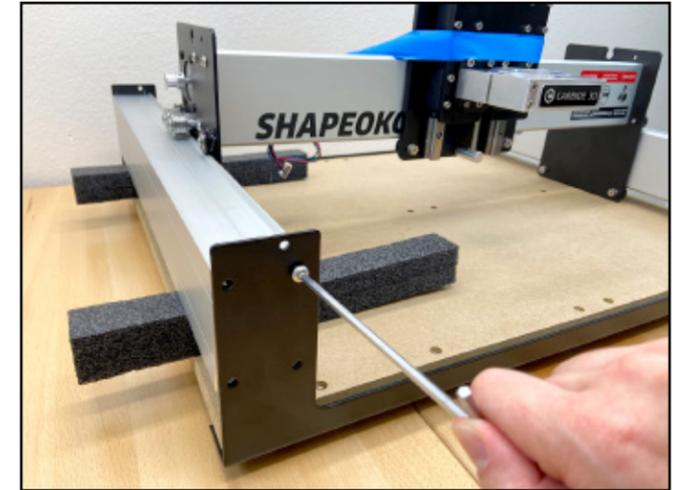

Figure 4-8
1. Prop up the Y1-rail with the two long foam packing blocks from the X/Z+ box. See **Figure 4-8**.
2. Align the **UPPER-INSIDE** screw holes of the Y1-rail with the same through-holes of the **FRONT** and **REAR** endplates. See **Figure 4-8**.
3. Use the 4mm hex key and two (2) M6×12mm button head cap screws to loosely attach the Y1-rail to the **UPPER-INSIDE** holes in the front and rear endplates. See **Figure 4-8**.